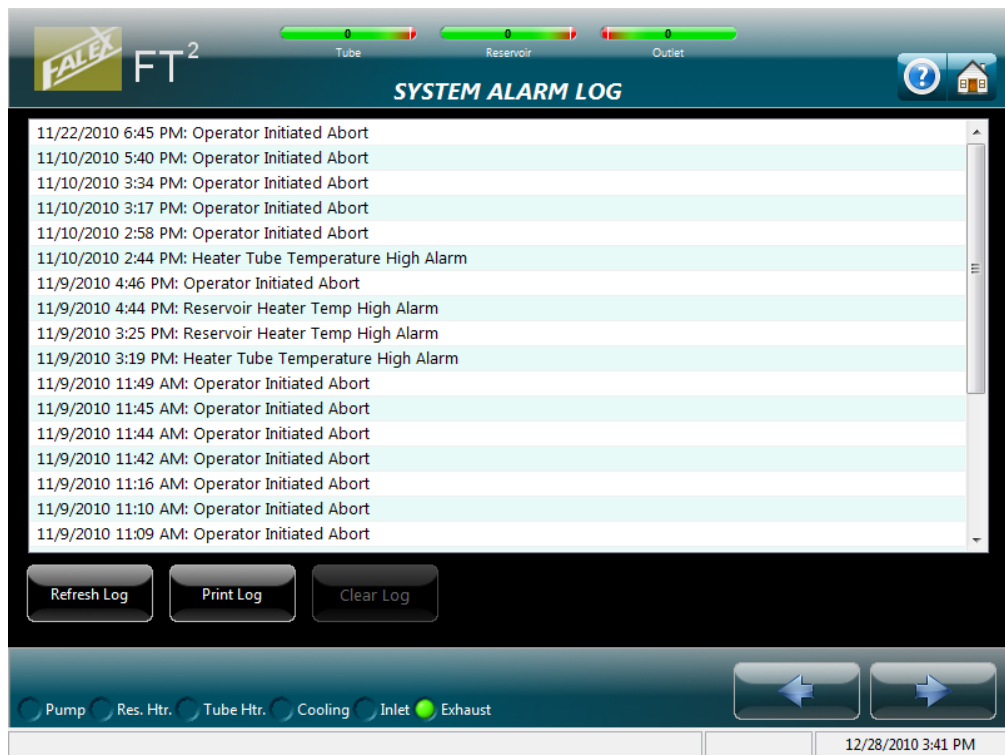

Figure 49 – System Alarm Log display
The System Alarm Log display shows the last fifty (50) alarms/aborts that have occurred (figure 49). They are shown with the most recent alarm/abort at the top and the oldest at the bottom. A date and time stamp of when the alarm/abort happened and a short description are shown. Refer to Addendum A to see all available alarm/abort conditions and their associated messages.